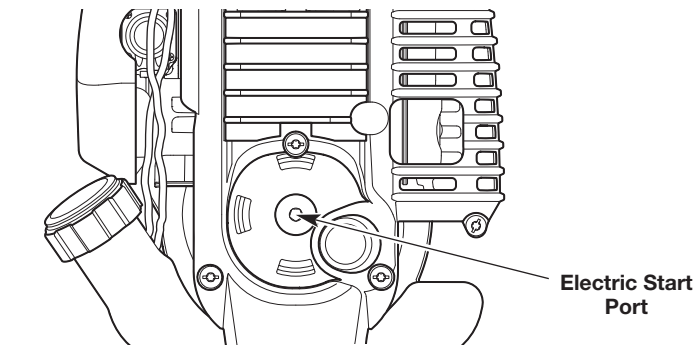

Fig. 11
6. Insert the electric start accessory into the electric start port (Fig. 11). Refer to the *Operation* section of the electric start accessory operator's manual.